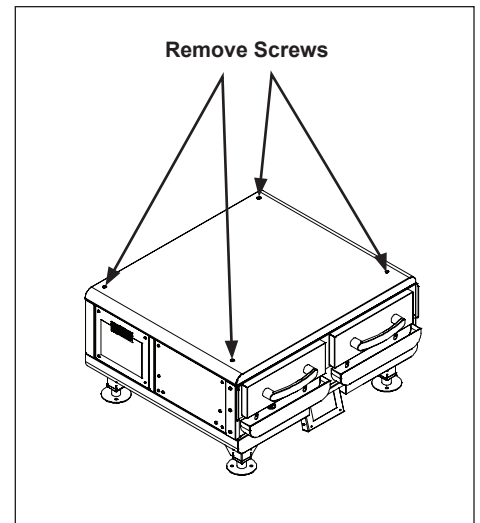

Figure 6. Remove Top Cover Screws of Bottom Unit
**NOTE:** The InfiniSteam is designed for a maximum height of two (2) steamers. Stacking more than two steamers can cause injury and/or damage to steamers and will void all warranties.
2. Locate and remove the four (4) screws on the top cover of the bottom steamer. Set aside for later use. (Figure 6)
6. Align the screw holes for two (2) feet and holes in the top of the base steamer. Using a screwdriver put the original screws from the first steamer back in place.